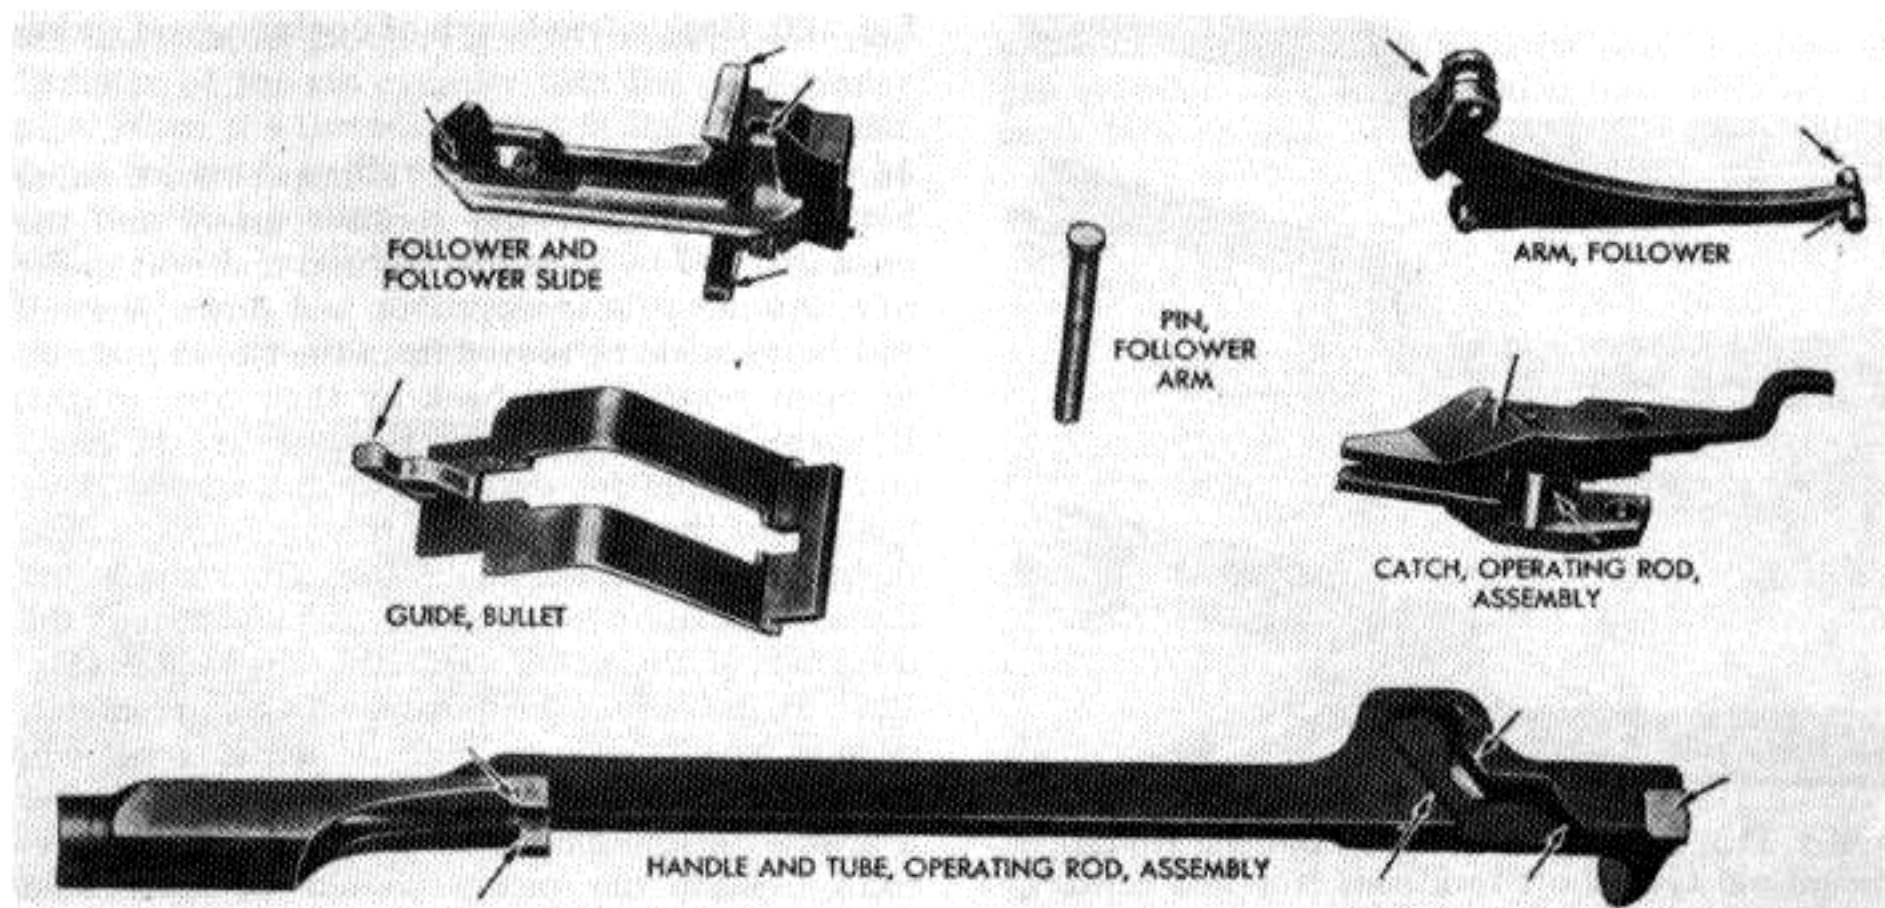
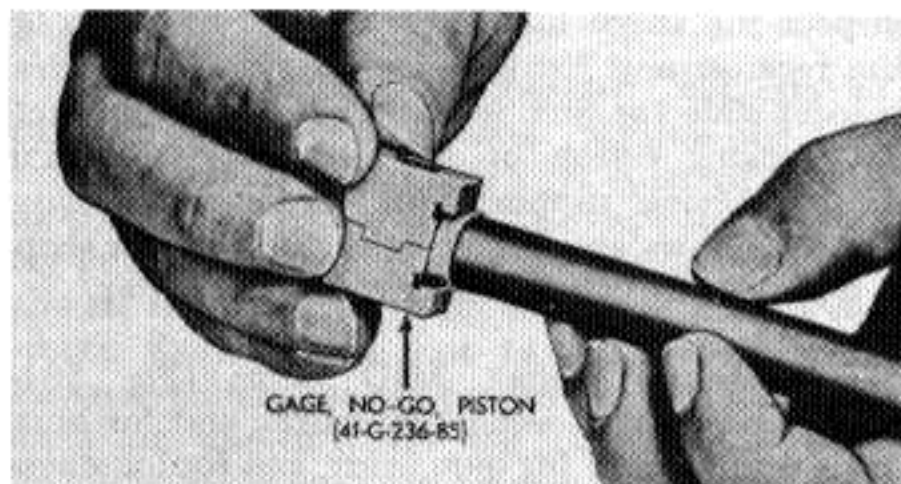
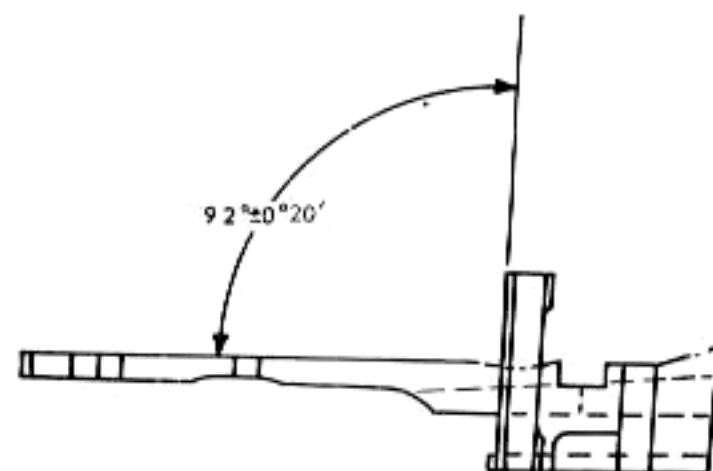

Fig. 117. Receiver group - points to inspect.
Fig. 122. Gaging diameter of piston.
Fig. 123. Follower showing correct angle.
45. General: inspect all parts for damage, wear, burs, rust, foreign matter in recesses, deformation, and for function and free action with mating parts. Important parts to be inspected are shown in Fig. 117 and 118. Test all springs for set, minimum length, and fractures.
48. Operating rod (Fig. 117): inspect for binding between the barrel and receiver group and the operating rod by installing the rod and bolt in the rifle. As the rifle is tipped up and down, the rod and bolt should be moved from the closed position to open position and back by their own weight. If there is binding, inspect the tube for dents and the handle for deformation, which will cause binding of the under side of the lug on the cut in the receiver. Inspect the piston for scoring and the accumulation of excessive carbon. Inspect the diameter of the piston with the no-go gage (Fig. 122). If measuring the piston with a micrometer, pistons which measure .525 or more inches will be considered serviceable. If the piston diameter is below the minimum as shown on the serviceability chart, the piston should be considered unserviceable.
49. Follower and follower slide (Fig. 117). Inspect the slides on follower for correct angle. An angle of approximately 92 degrees plus or minus 0 degree 20 minutes must be maintained (Fig. 123).
56. Correcting angle on follower: if the angle is not within the required limits (Fig. 123), bend slides to correct angle by lightly tapping with a brass hammer.